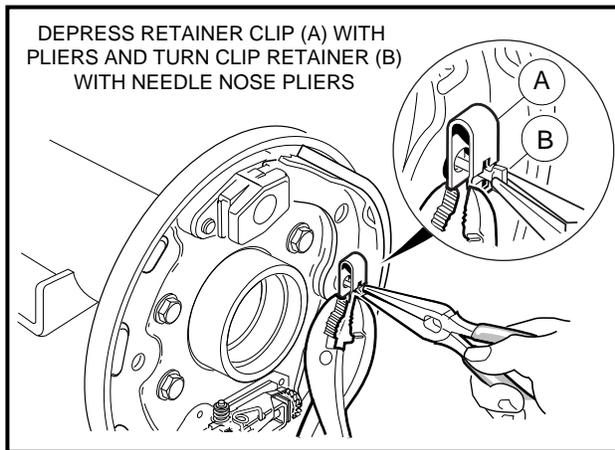

Figure 6-13 Install Trailing Shoe Retainer Clip
- Install the shoe retainer clips, using pliers to compress the clip while turning the clip retaining tab into position (**Figure 6-13, Page 6-7**).